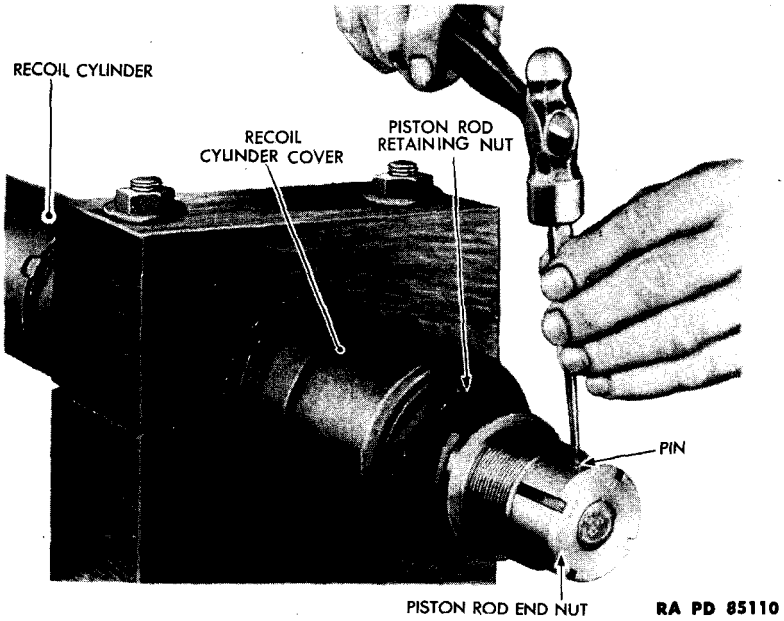
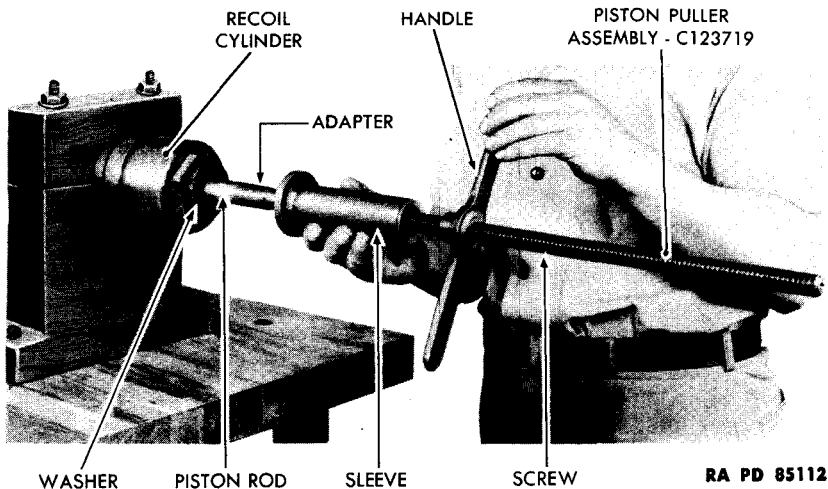

Figure 73 – Driving Out Recoil Cylinder Piston Rod Nut Pin
Figure 75 — Installing Recoil Cylinder Spring Compression Tool Assembly
(1) Place the spacer, which is part of piston puller assembly, inside recoil cylinder where buffer seats (fig. 72). Install buffer and tighten against spacer by hand. Screw buffer half a turn clockwise (wrench B224251) (fig. 71). This frees piston rod retaining nut at opposite end of recoil cylinder (fig. 73).
(2) Drive pin from piston rod end nut (fig. 73). Then remove nut (fig. 73).
(4) Install piston puller assembly on end of piston, then slide sleeve, flange end first, over screw until flange fits snugly against washer (fig. 75).
(5) Assemble handle on screw and tighten sleeve against washer. A slight amount of pressure will be sufficient to compress the recoil cylinder springs (fig. 75).
(7) Hold screw firmly with one hand and turn handle in counter-clockwise direction. This releases the recoil cylinder springs (fig. 75).
(8) Remove handle and sleeve from screw when springs are completely released (fig. 75).
d. Install Recoil Springs and Piston Assembly. Install spring seat on piston with straight end of spring seat against piston head (fig. 76). Then install small inner spring and large outer spring against spring seat. Install spacer on piston with short end of spacer toward piston head. Install second small spring and second large spring on piston with ends of springs loosely seated against spacer (fig. 76). Install screw A311460 with adapter A311461 on end of piston (fig. 75). Then place assembled tube A237750 and tip A237749 over screw to prevent damage by screw threads to packing (fig. 86). Guide screw which is covered by tube and tip through hole provided in cover. Remove
tube and tip from screw, then slide sleeve A311462, flange end first, over screw until flange fits snugly against fiber washer (fig. 75). Assemble handle B241092 on screw and tighten sleeve against washer. Continue to turn handle clockwise to pull piston, small springs, large springs, and spacer into their compressed position within the cylinder (figs. 75 and 85).
f. Secure Recoil Piston Assembly in Cylinder. Place spacer A311463 in cylinder and against piston (fig. 72), then install buffer in cylinder. Screw buffer on handtight and then tighten buffer an extra one-quarter turn (wrench B224251) (fig. 71). This operation is to facilitate installation of retaining nut and piston rod end nut and pin on other end of piston (fig. 73). Remove piston puller assembly C123719 from piston (fig. 75). Slide recoil piston rod nut on piston up against washer on cover, then install piston rod end nut handtight on end of piston rod (fig. 73). Aline hole in nut with hole in piston and install pin. Stake pin in position.